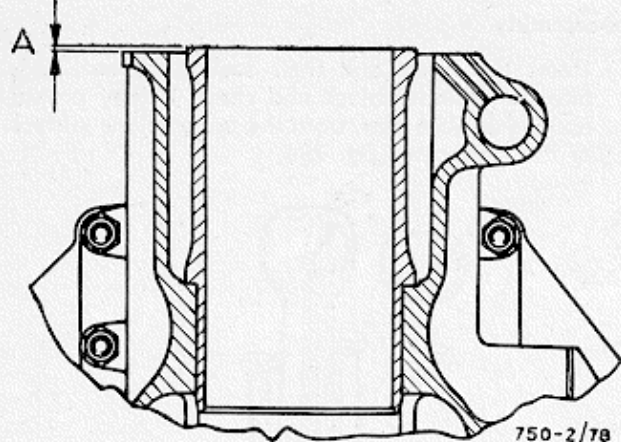

Fig. 78 - Checking the liner projection from the crankcase upper plane surface ($A = 0.05$ mm.)
- 1) Insert the liners and their sealing rubber rings into the cylinder block and check if they project about 0 to 0.05 mm. from the upper plane surface of the crankcase (fig. 78).